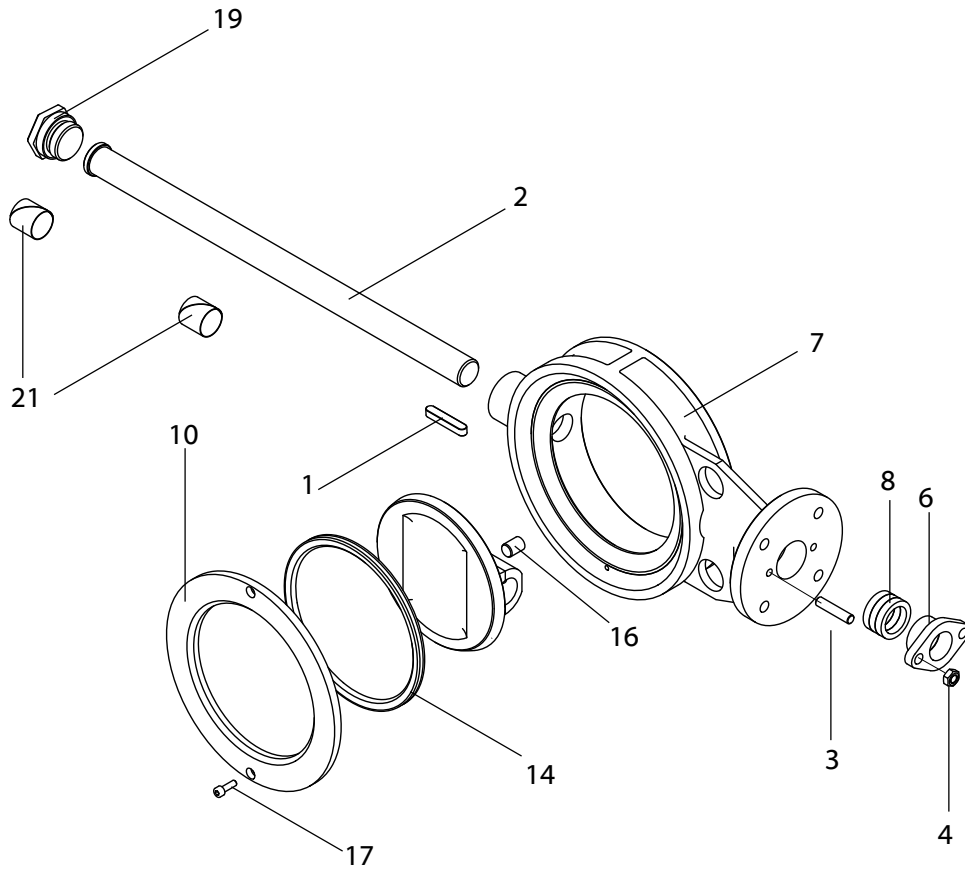

Fig.6-8 VSS DN 80-600, with metal seat
1. Loosen the nut of end position bolt(→ Fig.6-8/2) and turn the end position bolt 0.25 turns counter clockwise.
1. If the butterfly does not reach the position, loosen the lock nut of the end position bolt and turn the end position bolt (→ Fig.6-8/1) 1-2 turns counterclockwise.
2. If the butterfly rides over the position, loosen the lock nut of the end position bolt and turn the end position bolt (→ Fig.6-8/1) 1-2 turns clockwise.